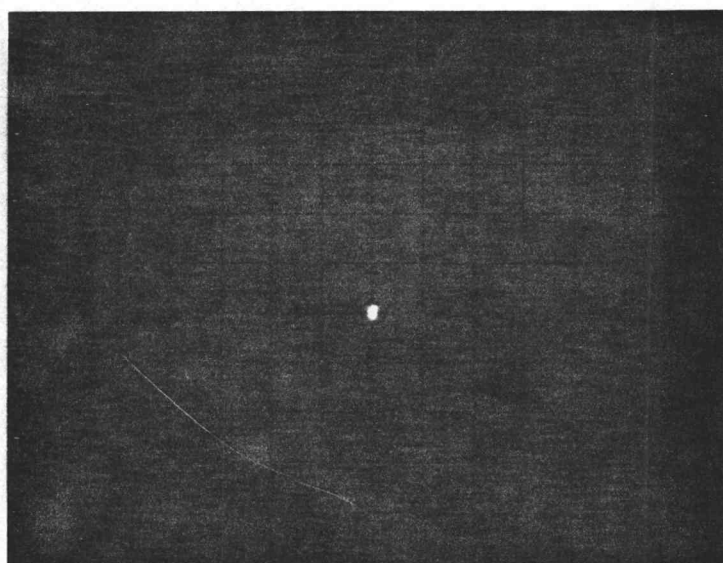

Fig. 3
- C. Now with the ampl vernier and phase vernier, adjust the dot on the 8418A to 180⁰, See fig. 3.